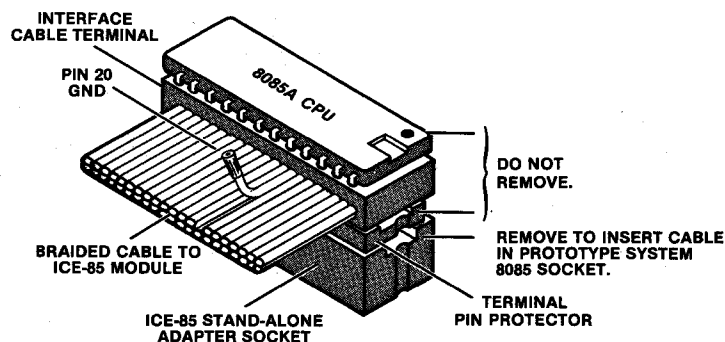

Figure 2-1. ICE™-85 Cable Terminal Assembly
- ICE-85 Module and Interface Cable (PN 4001461): A cable assembly containing 8085 logic; the cable terminal is a 40-pin connector with an 8085 CPU chip installed (Figure 2-1). The terminal is inserted in the CPU socket of the user system.
17. Locate the 40-pin terminal at the end of the Interface Cable on the ICE-85 Module (Figure 2-1). The terminal has an 8085 mounted on the top side, and the Stand-alone Adapter Socket mounted on the lower side through a terminal pin protector. If the ICE-85 system is to be used without user prototype hardware, leave the Adapter socket mounted in the terminal.
15. Locate the 40-pin terminal at the end of the Interface Cable on the ICE-85 Module (Figure 2-1). The terminal has an 8085A mounted on the top side, and the Stand-alone Adapter Socket mounted on the lower side through a terminal pin protector. If the ICE-85 system is to be used without user prototype hardware, leave the adapter socket mounted in the terminal.